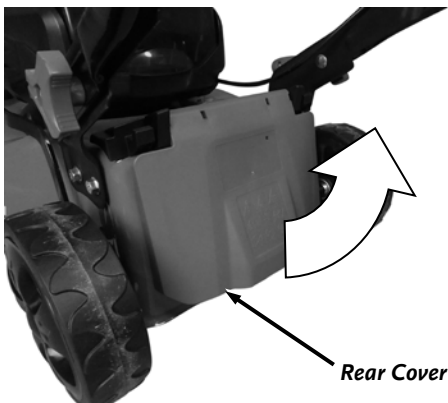

Figure 10
1. Hold the Rear Cover in the upright position (**Figure 10**).